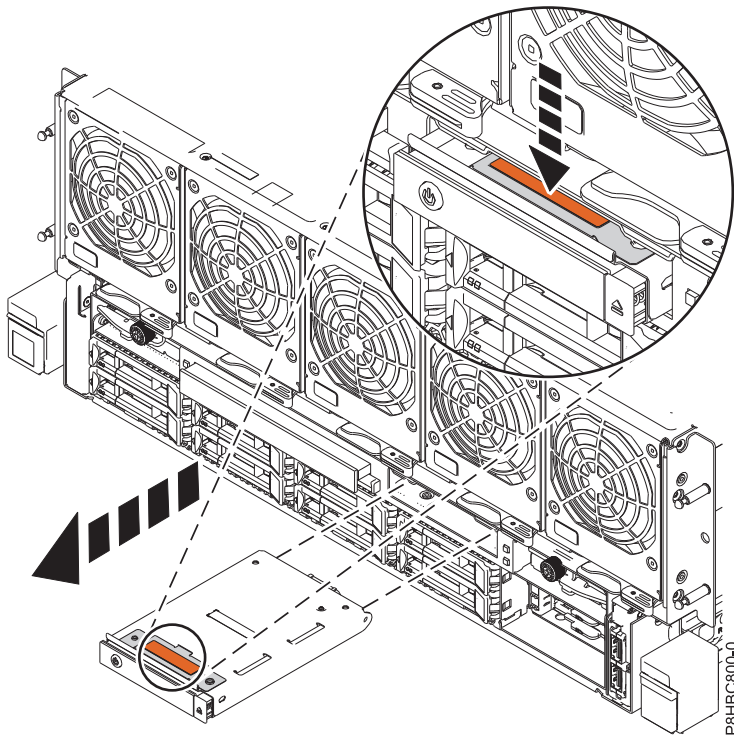

Figure 4. Removing a control panel
2. Press the terracotta tab and then slide the control panel straight out of the slot, as shown in Figure 4 on page 8.